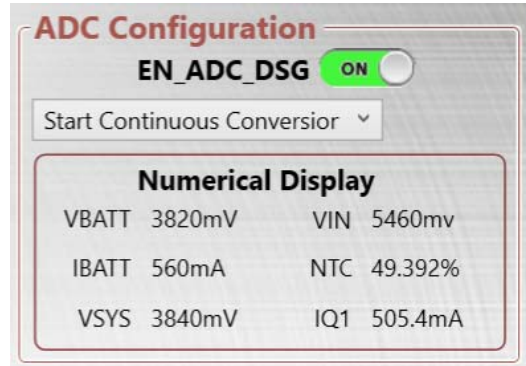

Figure 27: ADC Configuration
- ADC configuration (see Figure 27).